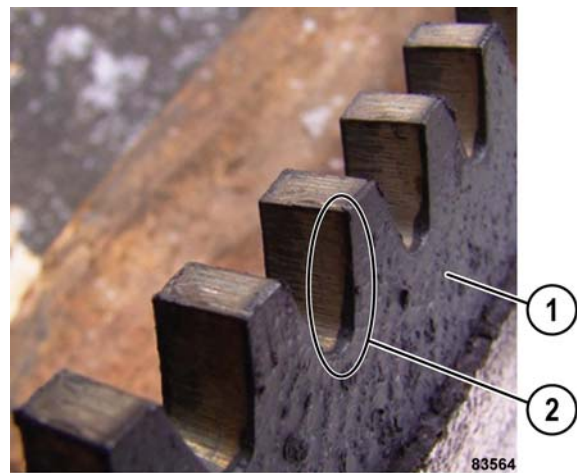

FIGURE 7-4. FRICTION DISC INNER TEETH
1. Inspect the inner teeth of each friction disc. The teeth must be free of burrs and excess adhesive. Refer to Figure 7-4.